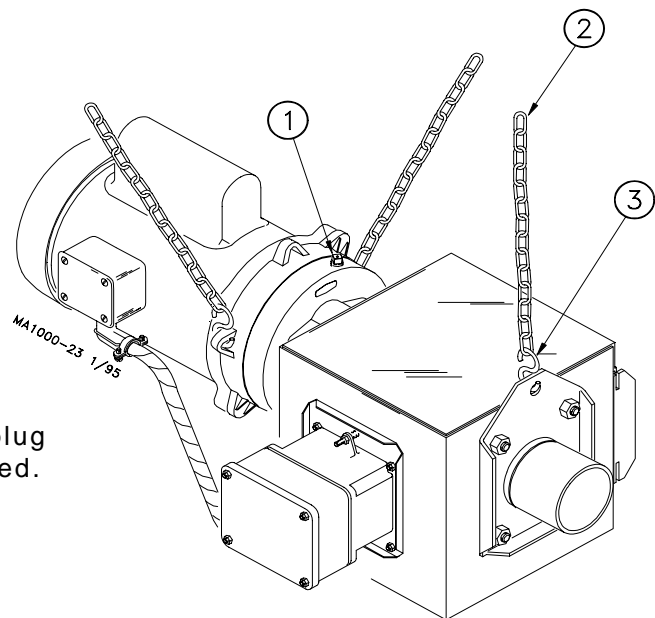

Figure 14. Control Unit/Power Unit suspension.
Power Units require extra support to resist the twisting encountered when the motor starts and stops. Use all of the "ears" on the gearhead as well as the suspension point provided on the 6500 Control Unit Box to support the Power Unit. See Figure 14 on page 24.
5. Support the Power Unit and Control Unit securely. Points are provided at the gear head and the tube anchor for suspending the equipment with chain and "S" hooks supplied with the delivery system. See Figure 14. NOTE: Other ways of supporting the delivery system can be used where it is practical, as long as the supports do not let the equipment sag or do not make flat spots in the auger tubes.